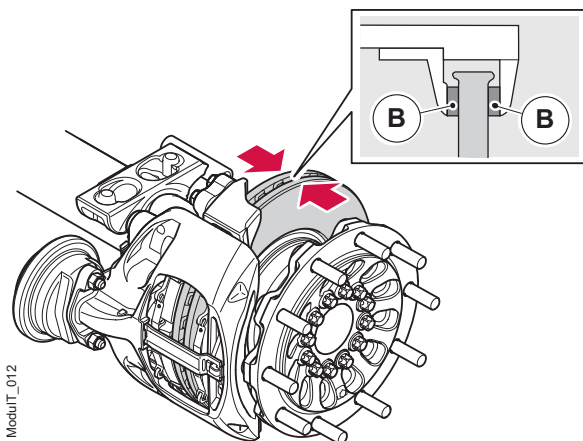

Figure 18. Measuring the Brake Disc thickness
2. Measure the thickness of the brake disc using a slide calliper. If the brake disc has a wear ridge, the measurement can be performed using two spacers (B) (e.g. 5 mm thick flat washers), see figure 18. Reduce the measured dimension by the total thickness of the two spacers (B).